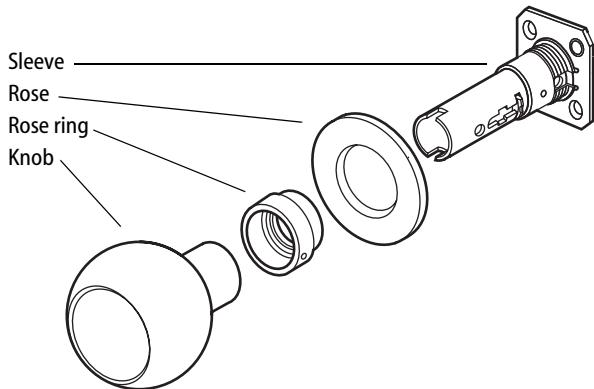

Figure 2–Unscrewing the rose ring and sliding the rose off the sleeve
- 2 Unscrew the rose ring from the sleeve. See Figure 2.
- 2 Slide the rose over the sleeve. See Figure 2.